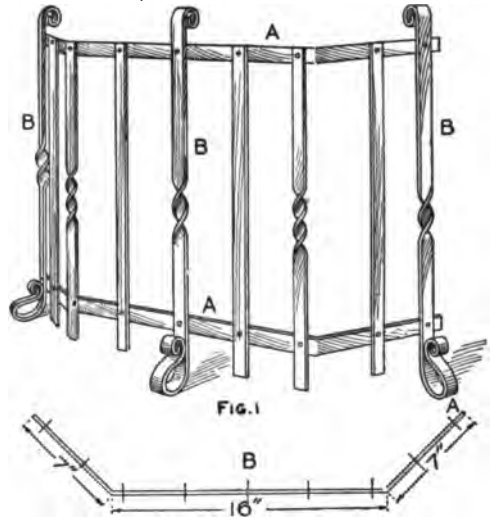
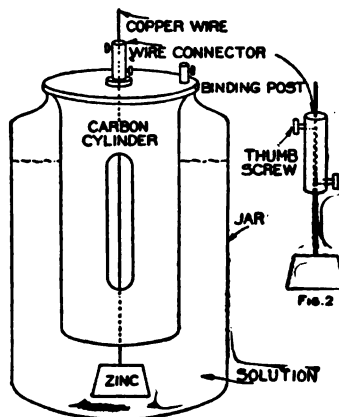

FIG. 2
Fig. 1
$\frac{1}{4}$ in. deep and $\frac{3}{4}$ in. apart on one side of the top and bottom shelves, as shown in Fig. 2, and on both sides of the middle shelf. The shelves should be spaced $9\frac{5}{8}$ in. for 10-in. records and $5\frac{5}{8}$ in. for 6-in. records. A neat scroll design is cut from a board 25 in. long to fill up and finish the space below the bottom shelf.—Contributed by H. E. Mangold, Compton, Cal.
Through the center of a block of wood 4 in. square and $\frac{7}{8}$ in. thick (A, Figs. 1, 2 and 3) saw a circular opening $2\frac{7}{8}$ in. in diameter. On each side of this block cut a larger circle $3\frac{1}{4}$ in. in diameter, having the same center as the first circle (Fig. 3). Cut the last circles only $\frac{1}{4}$ in. deep, leaving the first circle in the form of a ridge or track $\frac{3}{8}$ in. wide, against which the rubber tubing, E, is compressed by wheels. Bore two $\frac{1}{4}$ -in. holes (HH, Fig. 1) from the outside of the block to the edge of the inner circle. Put the rubber tube, E, through one of these holes, pass it around the track and out through the other hole. Notice the break (S) in the track; this is necessary in order to place in position the piece holding the wheels.
and the track (K, Fig. 1) is equal to the thickness of the tubing when pressed flat. If the wheels fit too tightly, they will bind; if too loose, they will let the air through. Bore a hole through the middle of the wheel-holder and insert the crankpin, D, which should be about $\frac{1}{2}$ in. in diameter. The crankpin should fit tightly; if necessary drive a brad through to keep it from slipping.
A screen which will not interfere with the radiation of the heat from the fire, and will keep skirts and children safe can be made at little expense out of some strap iron. The screen which is shown in Fig. 1, stands 20 in. high from the base to the top cross-piece and is made of $\frac{3}{4}$ by $\frac{1}{4}$ -in. and $\frac{1}{2}$ by $\frac{1}{4}$ -in. iron. The top and bottom pieces marked AA, Fig. 1, are $\frac{3}{4}$ by $\frac{1}{4}$ in. and are 30 in. long, bent at an angle to fit the fireplace 7 in. from each end, as shown in Fig. 2. The three legs marked BBB, Fig. 1, are of the same size iron and each leg will take $3\frac{1}{4}$ in. of material. In shaping the feet of these three pieces give them a slight tendency to lean toward the fire or inside of screen, says
a correspondent in the Blacksmith and Wheelwright. In the two cross bars 1 in. from each end, A in Fig. 2, mark for hole and 3 in. from that mark the
Mark the legs $2\frac{3}{4}$ in. from the bottom and 2 in. from the top and after making rivet-holes rivet them to the cross bars, AA, Fig. 1.
Cut six pieces, $17\frac{1}{2}$ in. long and punch holes to fit and rivet onto the remaining holes in cross bars, AA, Fig. 1. Clean it up and give it a coat of black Japan or dead black.
Next procure what is known as a wire connector. This is a piece of copper tube about $1\frac{1}{2}$ in. long having two thumb screws, one on each end on opposite sides (Fig. 2). The upper screw is to connect the battery wire, the lower one to raise and lower the zinc. The battery is now complete, and the solution (Fig. 1) must be prepared. Proceed as follows:
For simple experimental work on distances of 100 ft. only, an ordinary automobile spark coil can be used in place of the more elaborate coil, Figs. 1 to 4.
A small speed-lathe, suitable for turning wood or small metal articles, may be easily made at very little expense. A lathe of this kind is shown in the cut (Fig. 1), where A is the headstock, B the bed and C the tailstock. I run my lathe by power, using an electric motor and countershaft, but it could be run by footpower if desired. A large cone pulley would then be required, but this may be made in the same manner as the small one, which will be described later.